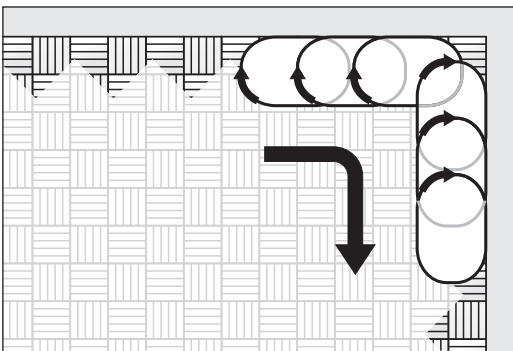

Fig. 12 FLIP® with **short** or **long** attachment:
- The FLIP® with **short** or **long** attachment is handled with rotary **clockwise** movements (fig. 12) during the sanding process!